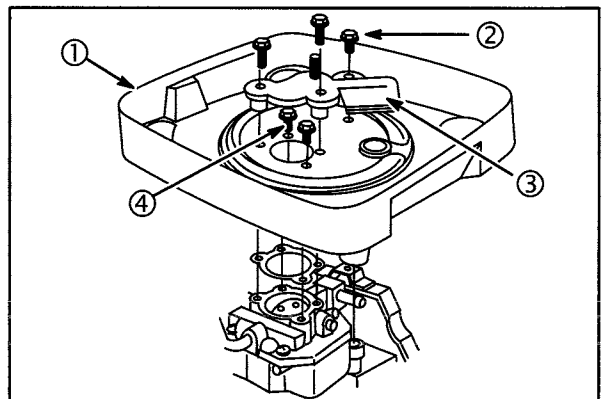

**Fig. 39**
1. Install new air cleaner mounting gasket with adhesive side toward air cleaner base, **Fig. 39**.
3. Install carburetor shield (2).
4. Install nuts (3) and screws (1) finger tight.